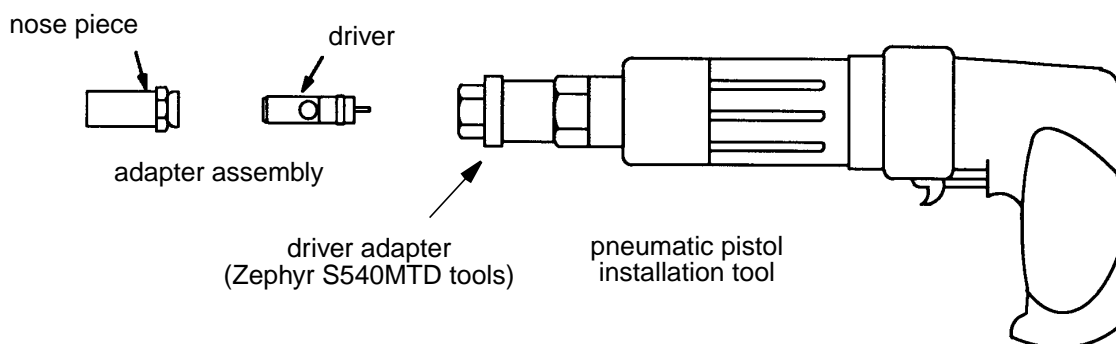

Figure 6 - Pneumatic Installation Tool and Adapter Assembly
- 5.5.1 If using a pneumatic pistol type installation tool (as shown in Figure 6), install the correct adapter assembly for the particular Jo-Bolt type and size (refer to Table 5 and Table 6 for adapter assemblies for use with S540MTD, OAINS3 and OA2N tools. Before connecting the pistol to an air line, allow the line to blow through and clear itself of any dirt or moisture that may have accumulated inside.